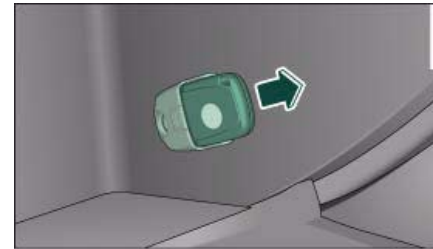

Fig. 36 Glove box: Adapter for spare key
- Take the adapter for the spare key out of the glove box ⇒ fig. 36.